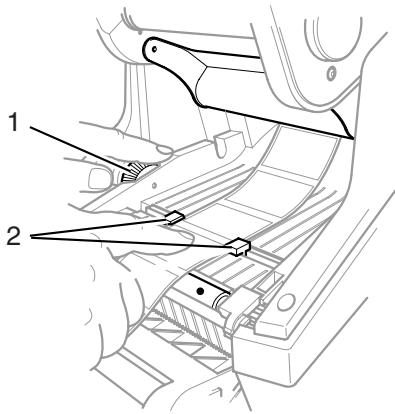

Figure 21, Alignment Guides
6. Thread the material under the print module, under the guides (**Figure 21, 2**) and forward through the slot in the control panel.
7. Turn the green dial on the left (**Figure 21, 1**) to adjust the guides so they just snug up against the labels. Do not tighten the guides enough to crimp the labels.
2. Position the label strip between the label guides (**Figure 21, 2**) and turn the adjustment wheel (**Figure 21, 1**) to snug the guides just up against the label strip. Be careful not to tighten the guides against the label strip enough to crimp the label strip.